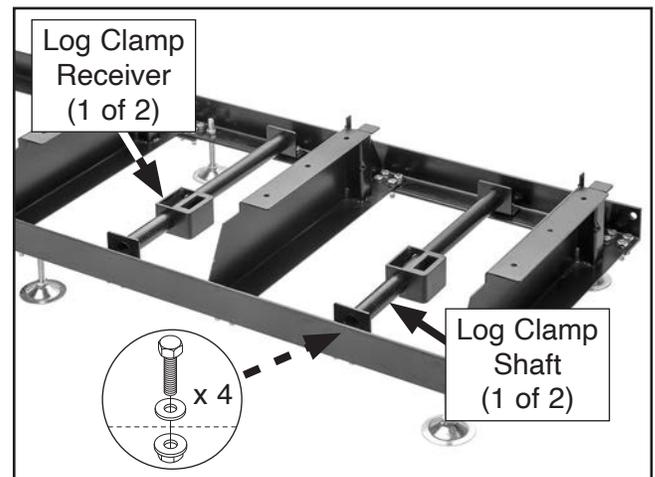

Figure 22. Log clamp shafts installed on rails.
- Slide log clamp receivers onto log clamp shafts, as shown in **Figure 22**.
- Insert ends of log clamp shafts into log clamp shaft brackets, then attach shafts to rails with (4) M10-1.5 x 30 hex bolts, $\frac{3}{8}$ " flat washers, and M10-1.5 flange nuts (see **Figure 22**).